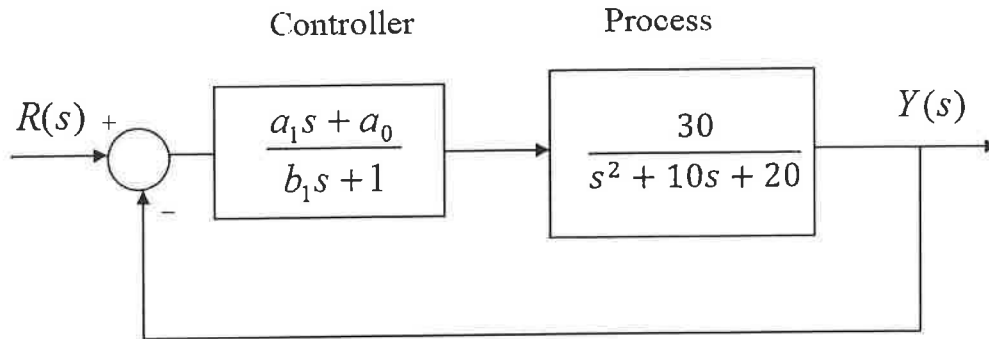

Figure Q1.1
Consider a closed loop positioning control system working in a configuration shown in Figure Q1.1 that could become either a Lead or a Lag Control, depending on the choice of its parameters.
Consider the block diagram of the servo-control system for one of the joints of a robot arm, shown in Figure Q1.1, where the input is the reference angular velocity (speed) for the robot arm, $R(s)$, the output is the actual load velocity of the arm, $Y(s)$, and the forward path contains a Proportional + Integral (PI) Controller, a calibration gain, motor and robotic arm dynamics and a gearbox. The Proportional + Integral (PI) Controller is described as shown and has a time constant $\tau_i = 2.0$ seconds. Two transfer functions have been defined, the closed loop system transfer function $G_{cl}(s)$, between the actual angular load velocity and the reference angular velocity, and the disturbance transfer function, $G_d(s)$, between the Torque disturbance signal, $D(s)$, and the load velocity, $Y(s)$:
Consider, once again, the servo-positioning system under Proportional + Integral (PI) Control from Question 1, shown in Figure Q1.1. Assume no disturbance signal present. The Controller Operational Gain value was set to $K_{op} = 3.0$ and the closed loop transfer function, $G_{cl}(s)$, was found to be:
Consider the same servo-positioning system under Proportional + Integral (PI) Control from Question 1, shown in Figure Q1.1.